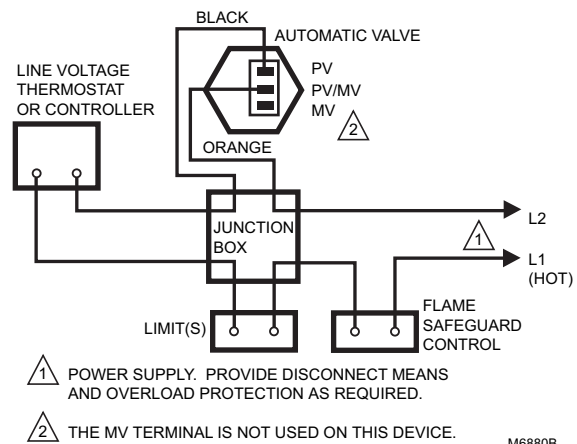

Fig. 8. Typical wiring diagram for V4943A Valve.
1. De-energize the control system to make sure there is no power to the safety shutoff valve (C) shown in Fig. 8.
2. Close the upstream manual gas cock (A).
3. Make sure the manual test petcock (F) is closed in the leak test tap assembly (D).
4. Remove the leak test tap plug (valve outlet pressure tap can be used as a test tap) and connect the test apparatus to the leak test tap (D).
5. Close the downstream manual gas cock (E).
6. Open the upstream manual gas cock (A).
7. Run the safety shutoff valve (C) to its fully open position (through the safety system); then immediately deenergize the system to close the valve.
9. Slowly open the test petcock (F).
6. Refer to Fig. 8 and 9 for typical field wiring connections. Follow the burner manufacturer wiring diagram if provided.